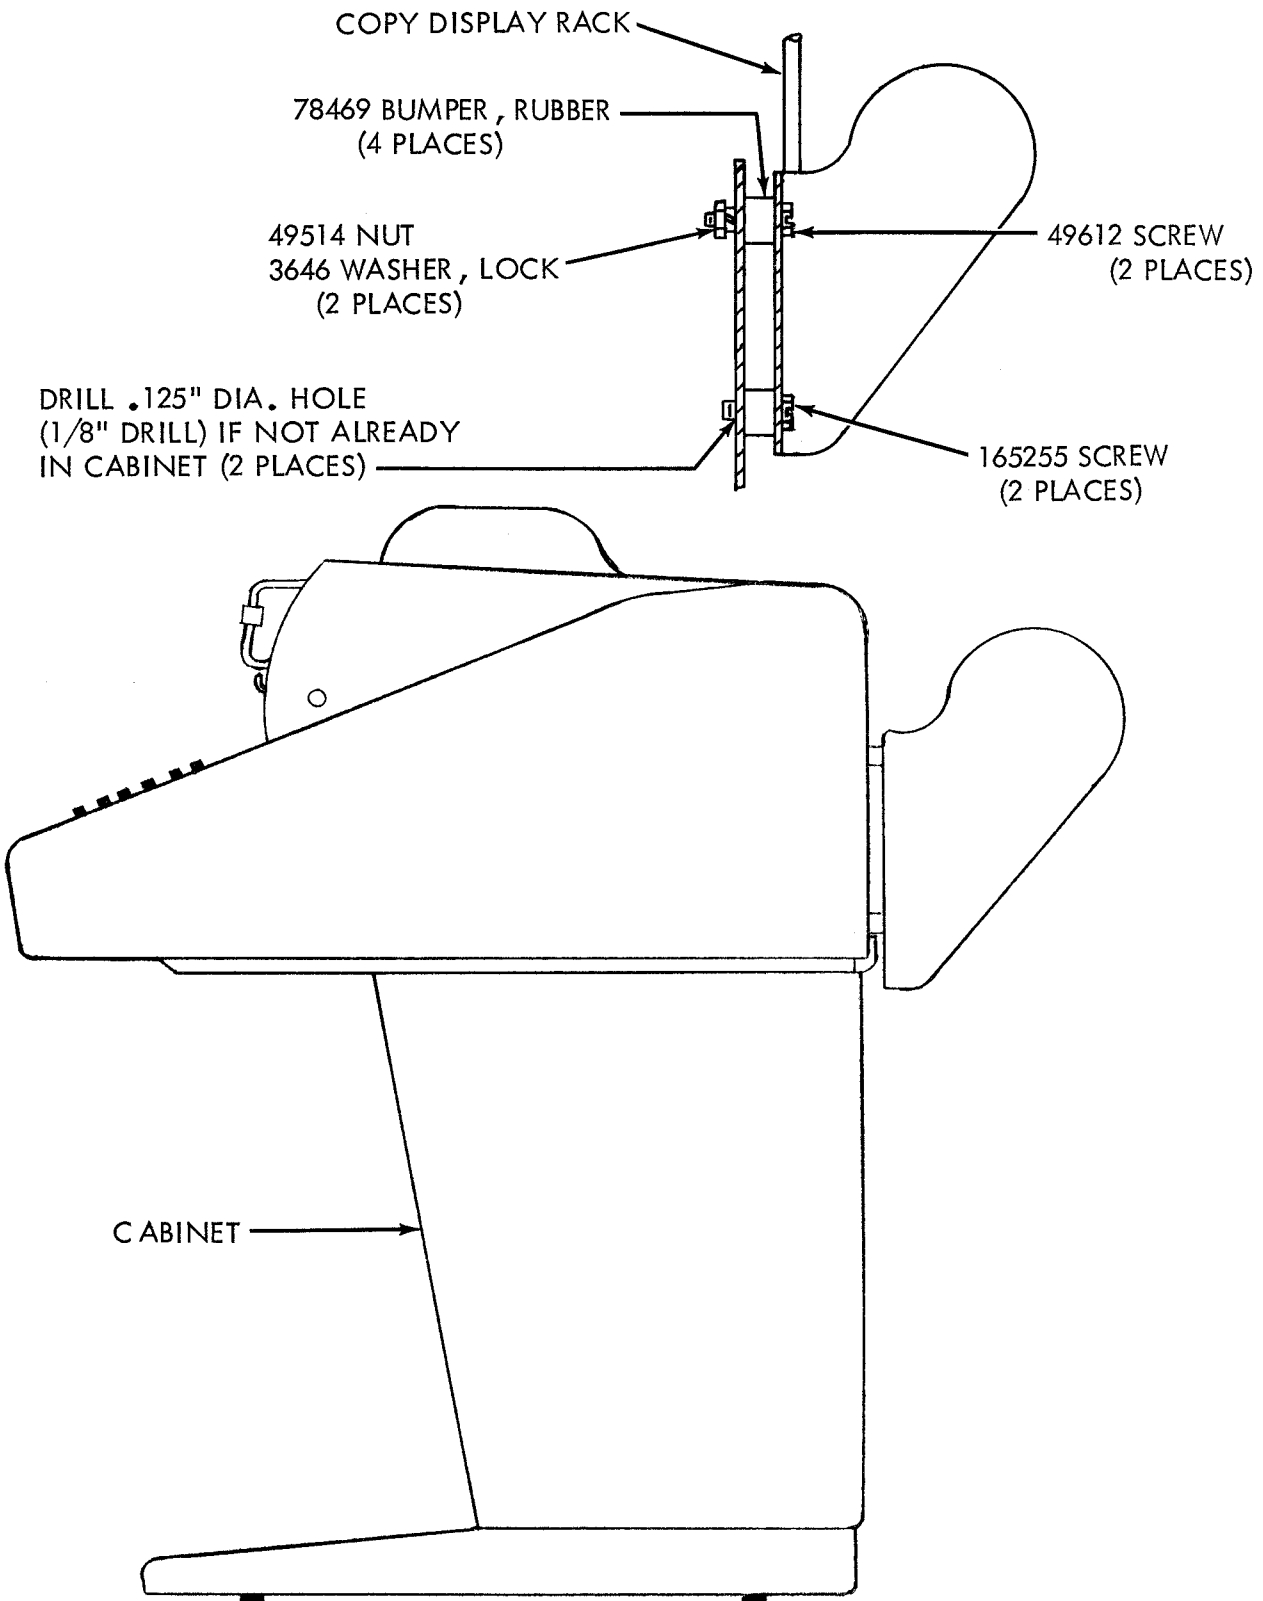

FIGURE 3. INSTALLING LPW300** PAPER WINDER ON A
c. Installing LPW300** Paper Winder on Model 34 or 35 Console Cabinet (Figure 3).
(1) Remove 152797** Plate w/Screws and 192116** Cover w/Plate from rear of cabinet by removing two 6345 Nuts, 2191 Lock Washers and 7002 Washers. Discard the parts and mounting hardware.
(2) Mount the paper winder at the rear of the cabinet using two holes made available in preceding Paragraph (1), two 78469 Rubber Bumpers, 49612 Screws, 3646 Lock Washers, 49514 Nuts, two lower holes present on later cabinet, two 78469 Rubber Bumpers and 165255 Sheet Metal Screws. See Figure 3.